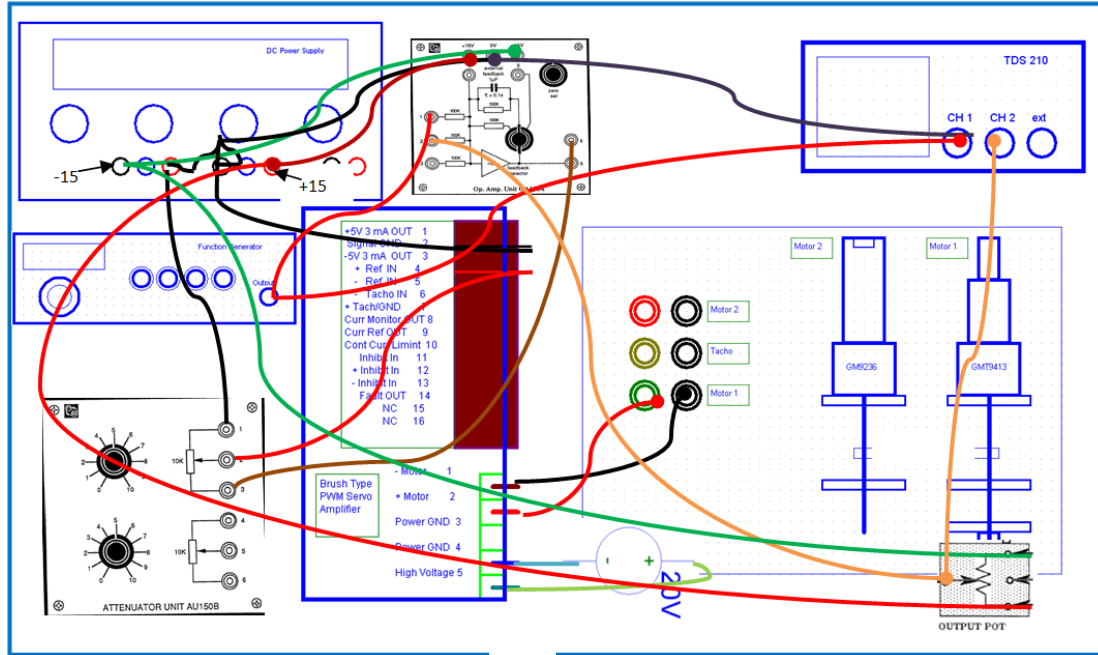

Figure 6-6
In this experiment, first we will be examining time response of DC motors with unit feedback to step input, and then to sinusoidal input. As shown in Figure 6-6, we use function generator to get step and sinusoidal signal θ_i . Motor shaft position θ_o be measured by output potentiometer, The error signal $\theta_e = \theta_i - \theta_o$ will be adjusted through attenuator and amplified by servo amplifier. We can use Attenuator Module (AU150B) to adjust proportional gain K_p , thus change the damp ration of DC motor system, and get desired response.
1. Connect the function generator, Attenuator module, output pot, power supply and DSO as shown in Figure 6-6. The main power supply offer +15v, 0, -15v fix voltage to Op-Amp and Output Pot. The second power offer 0, 20v fix voltage exclusively to Servo-Amplifier. DO NOT TURN ON POWER SUPPLY YET!